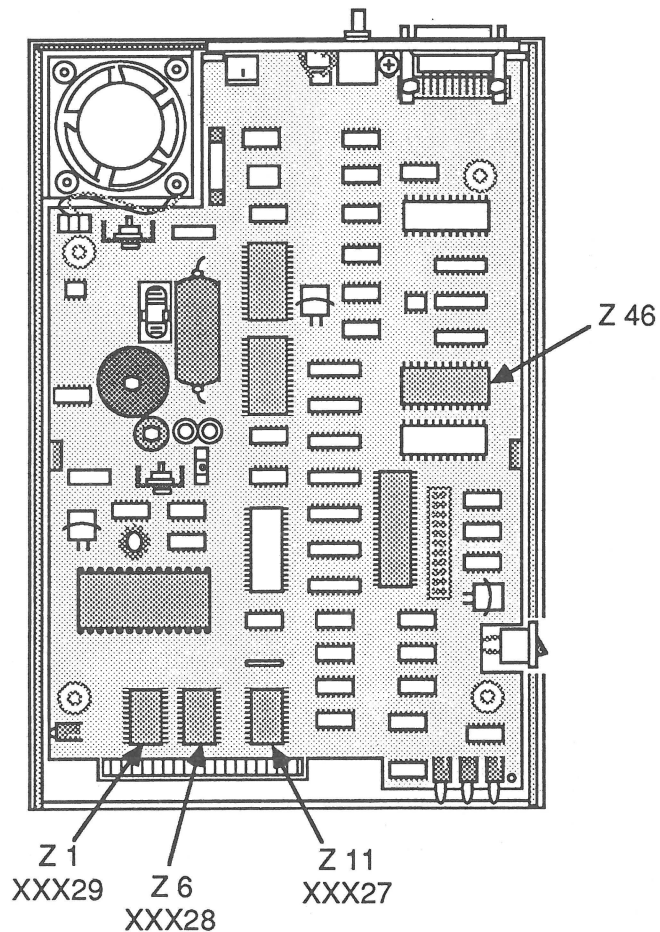

FIGURE 1
2. Locate the PROMs on the logic board and note the version numbers (see Figure 1). Use an IC tool to remove any PROMs that need to be upgraded.